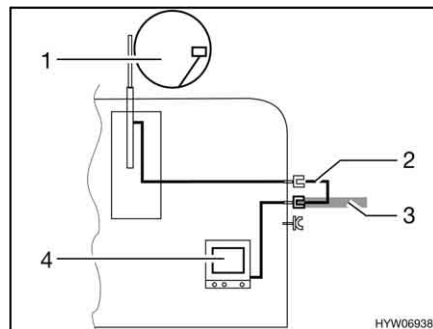

Fig. 186 TV inside the vehicle
- TV inside the vehicle (Fig. 186,4): Connection to roof antenna (Fig. 186,1) with connection cable (Fig. 186,2)
- TV inside the vehicle (Fig. 186,4): Connection to external antenna (Fig. 186,3)